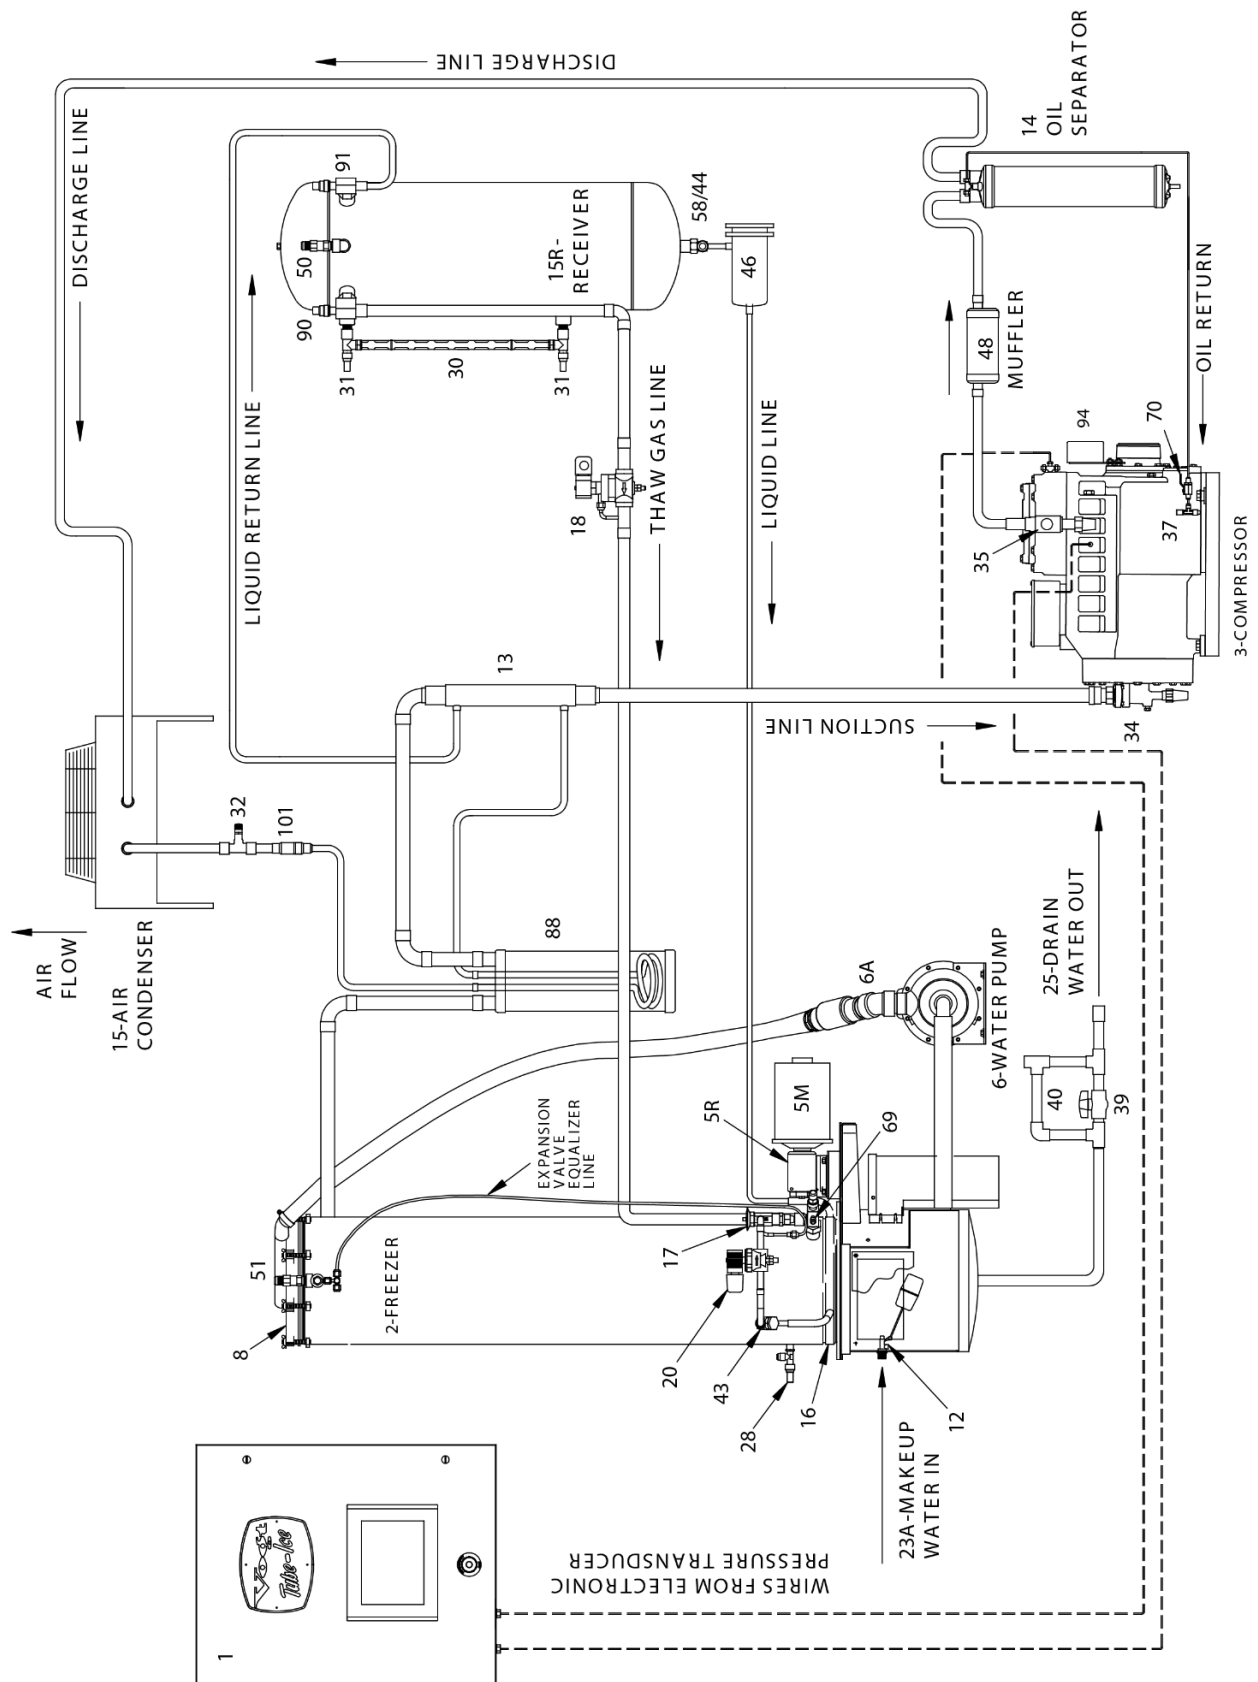

Figure 4: Air-Cooled Piping Schematic
Table 1 lists the piping nomenclature as labeled in Figure 3 and Figure 4, which illustrate the piping schematics of the refrigerant and water circuits of water-cooled (WC) and air-cooled (AC) Tube-Ice® machines.